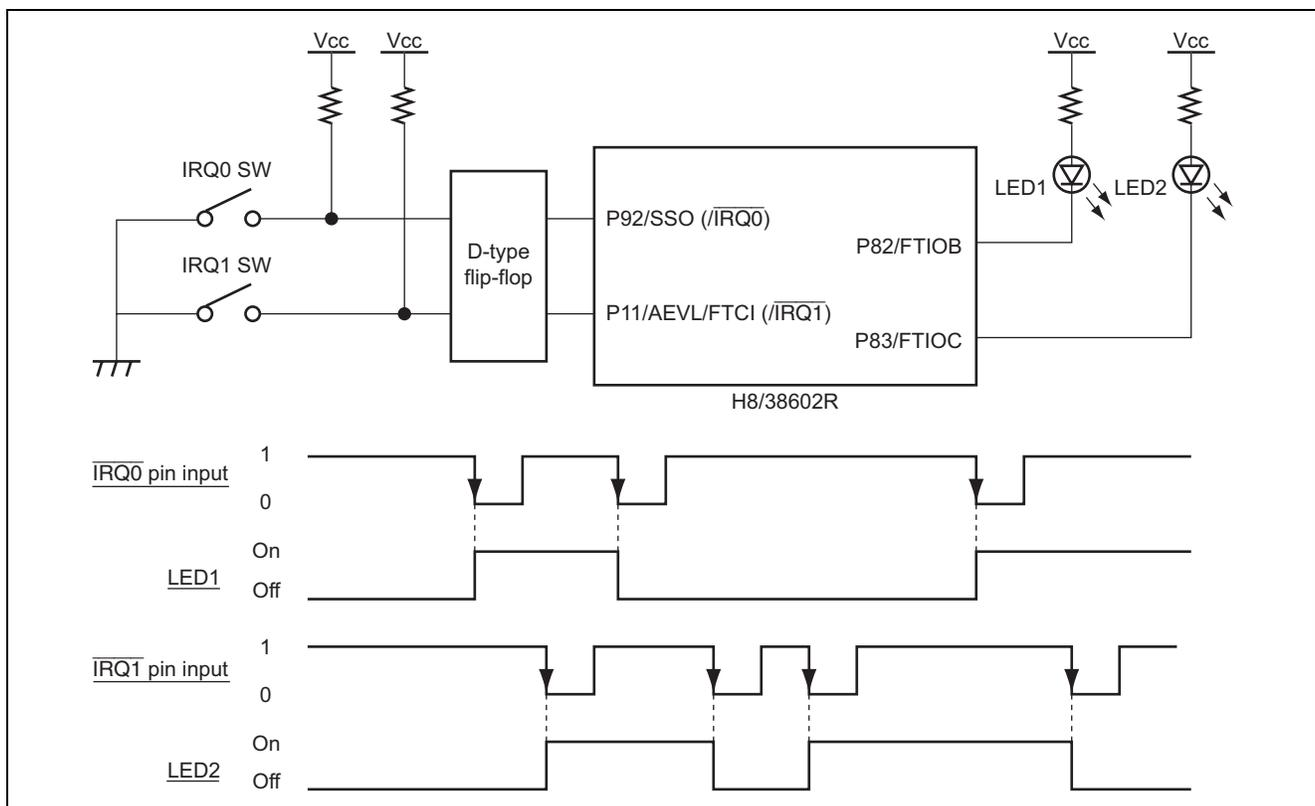

Figure 1 Setting of the IRQ Pins
- Figure 1 shows a block diagram of setting of the IRQ pins.